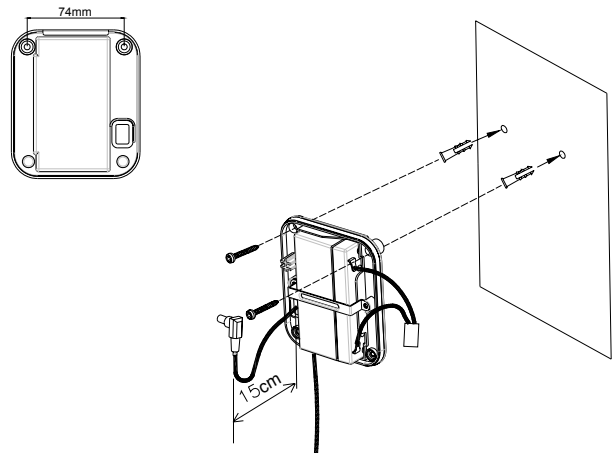

FIGURE 1
2. Lead either the jack of solar connecting wire or the jack of DC power cord through the rubber gasket on the backplate, leaving 15cm length of wire inside the backplate. (FIGURE 1)